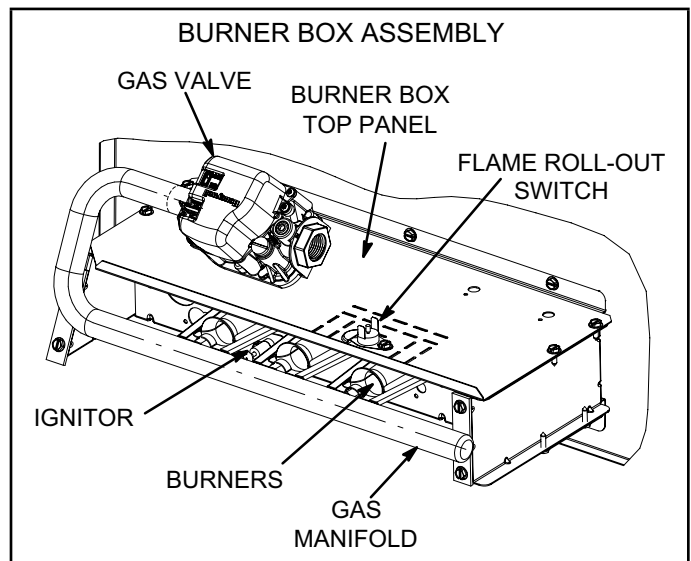

FIGURE 12
- 10 - Replace burners and screws securing burner. See FIGURE 12.